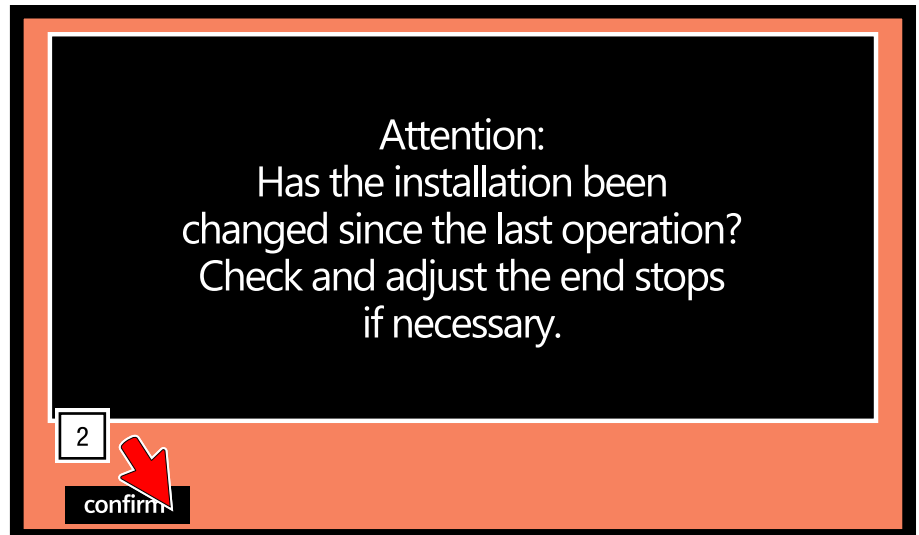

Fig. 49: Operating the roller screen – prompt for changes
- ⇒ A prompt regarding setup changes appears (see Fig. 49)
➔ If changes have been made to the roller screen, check and, if necessary, adjust the settings of the operational limit switches (see Fig. 49).